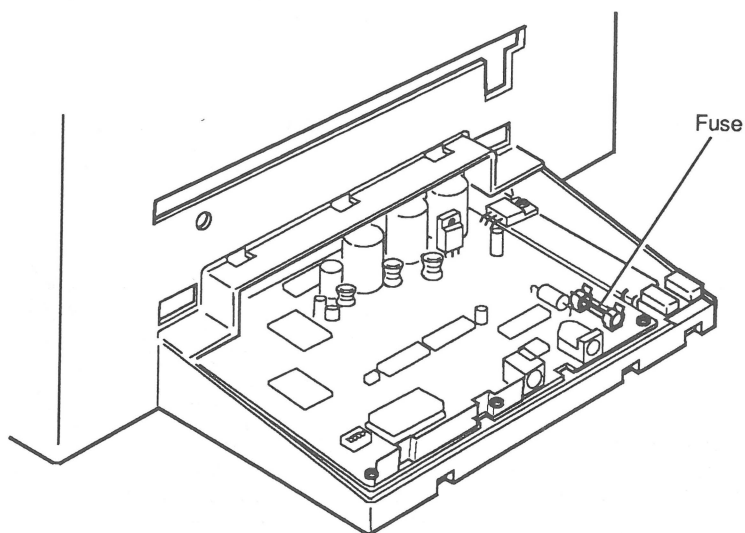

Figure 2-11 Fuse
2. Locate the fuse (**Figure 2-11**). Using a precision screwdriver, gently pry the ends of the fuse out of the holder.